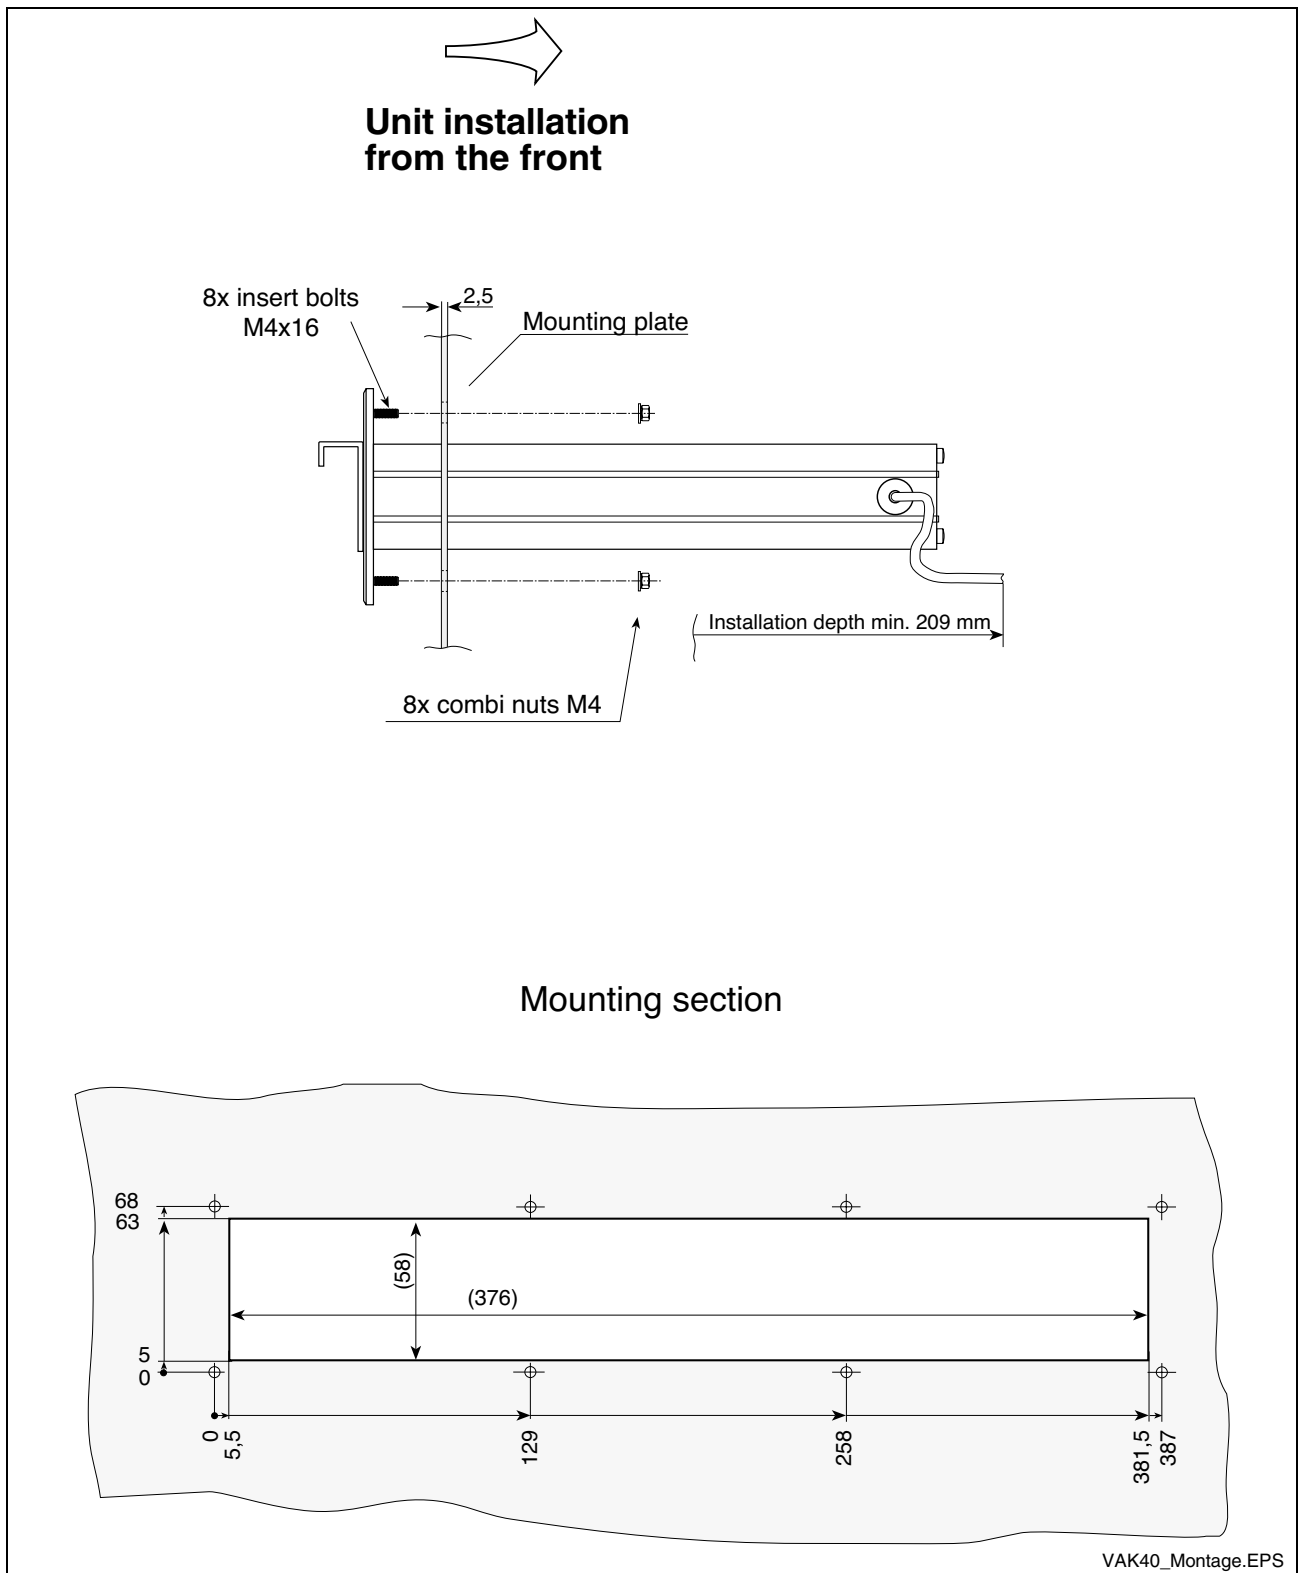

Fig. 7-4: Mounting dimensions VAK 40.1
- Fig. 7-4: Mounting dimensions VAK 40.1 7-4